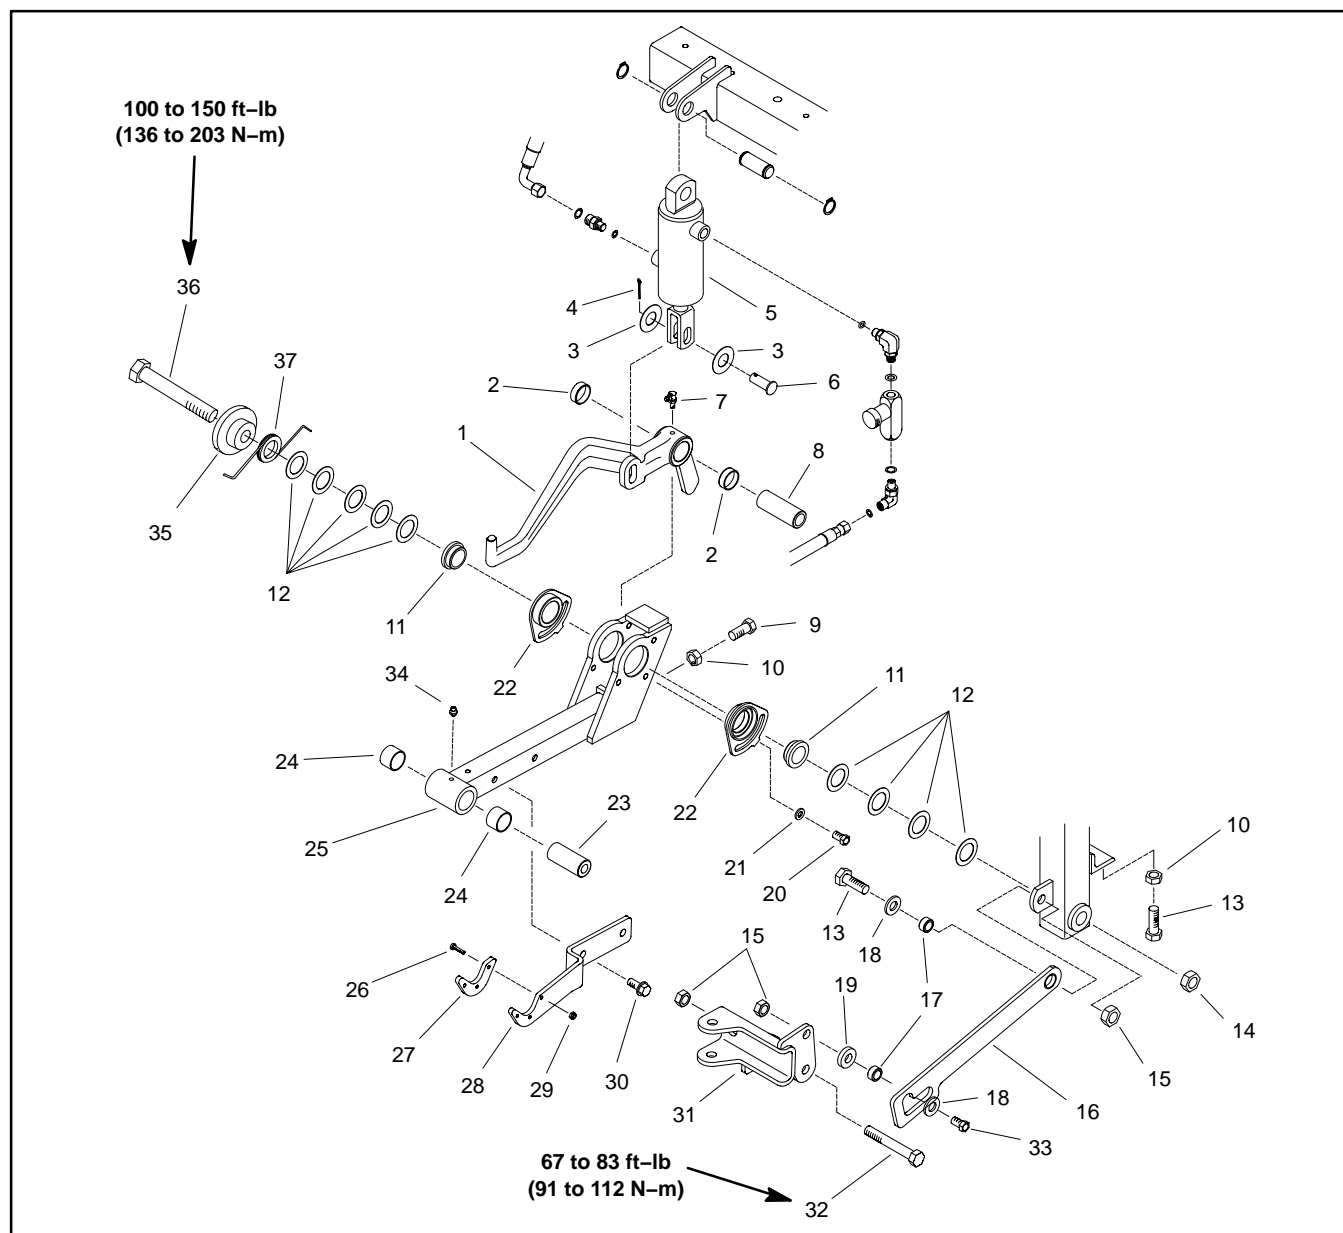
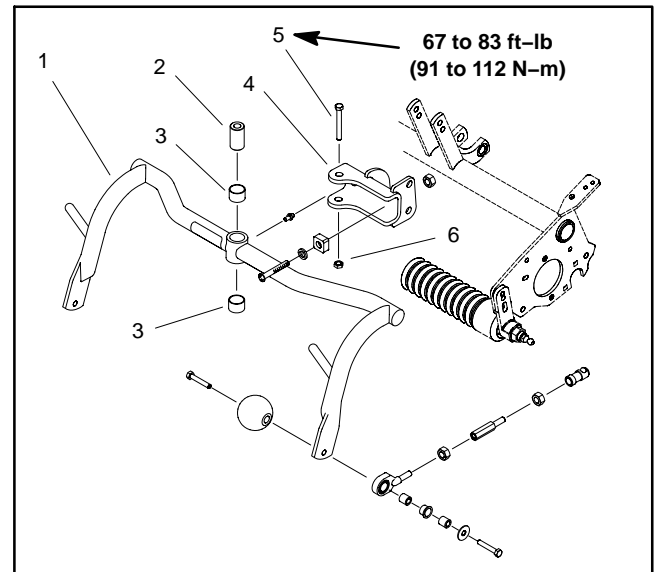

Figure 12
Figure 13
### Disassembly (Fig. 12)
3. Disassemble center lift arm as needed using Figures 12 and 13 as guides.
1. If lift frame (item 25) was removed from machine:
- A. Adjust eccentric bushings (item 22) as needed so that lift frame is level when the lift frame is in the raised position.
- B. Install thrust washers (item 12) as needed so that lift frame is centered between the front wheel mounts when the lift frame is in the raised position.
2. Assemble center lift arm using Figures 12 and 13 as guides.
- A. If clevis (item 31) was removed from center lift frame, torque cap screw from 67 to 83 ft-lb (91 to 112 N-m).
- B. If pull frame (item 1 in Fig. 13) was removed from clevis on lift frame, torque cap screw from 67 to 83 ft-lb (91 to 112 N-m).
4. Check that when raised to the transport position, the cutting unit is secured by the transport plate. If necessary, loosen two cap screws (item 30) and reposition transport plate.